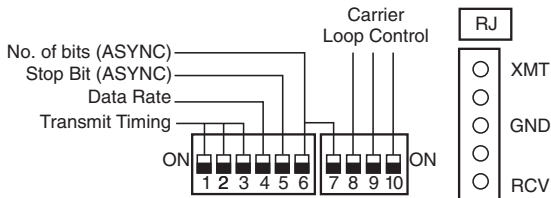

Figure 3-1. Strapping Diagram.
2. Strap the modem according to the Strapping Diagram (see **Figure 3-1**) and the Strap Selection table (see **Table 3-1**).
The ten switches are mounted on two blocks (as shown in **Figure 3-1**). The first block has six switches and the second has four. **Table 3-1** relates to these switches as one group, numbered 1 to 10.